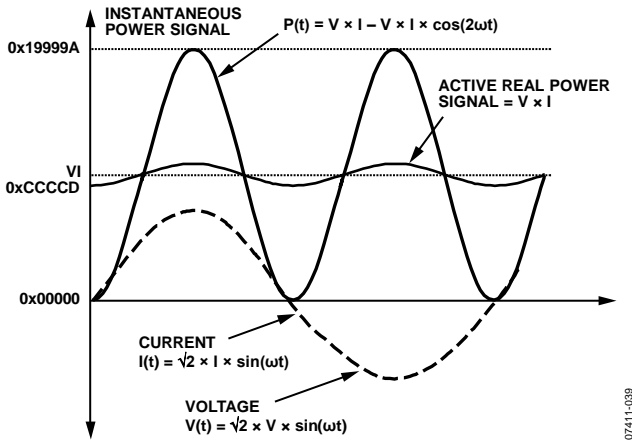

Figure 64. Active Power Calculation
Note that the active power is equal to the dc component of the instantaneous power signal,  $P(t)$ , in Equation 9, that is,  $V_I$ . This is the relationship used to calculate active power in the ADE5166/ADE5169/ADE5566/ADE5569. The instantaneous power signal,  $P(t)$ , is generated by multiplying the current and voltage signals. The dc component of the instantaneous power signal is then extracted by LPF2 (low-pass filter) to obtain the active power information (see Figure 64).
As mentioned in the Active Energy Calculation section, the discrete time sample period (T) for the accumulation register is 1.22 μs (5/MCLK). With full-scale sinusoidal signals on the analog inputs and the WGAIN register (Address 0x1D) set to 0x000, the average word value from each LPF2 is 0xCCCCD (see Figure 64). The maximum positive value that can be stored in the internal 49-bit register is 248 (or 0xFFFF FFFF FFFF) before it overflows. The integration time under these conditions when WDIV = 0 is calculated in the following equation: